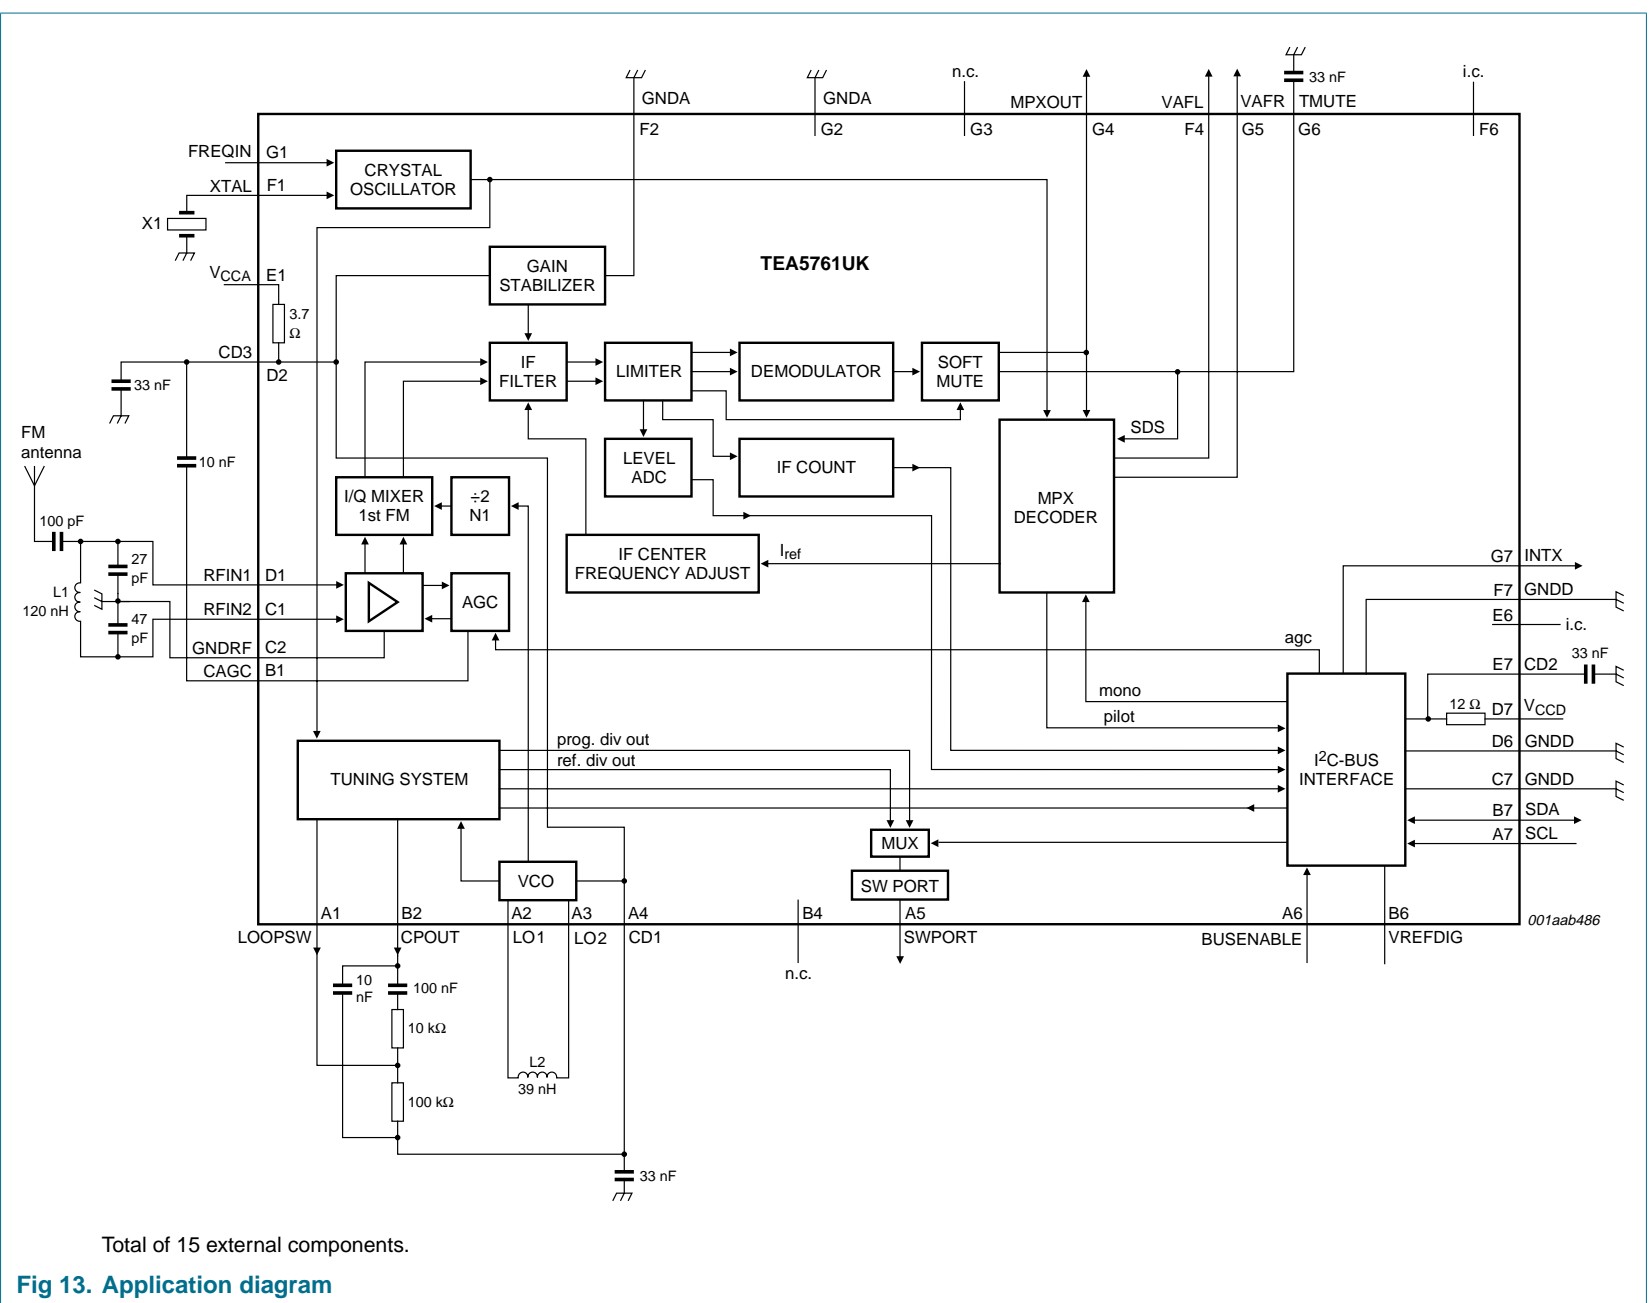

Fig 13. Application diagram
$V_{CCA} = V_{CCD} = 2.7$ V; $T_{amb} = 25$ °C; measured with test circuit in Figure 13; all AC values are given in RMS; minimum and maximum values include spread due to the applied voltage from 2.5 V to 3.6 V and process spread; unless otherwise specified; all RF input values are defined in potential difference (PD), except when EMF is explicitly stated.
$V_{CCA} = V_{CCD} = 2.7\text{ V}$; $T_{amb} = 25\text{ °C}$; measured with test circuit in Figure 13; all AC values are given in RMS; minimum and maximum values include spread due to the applied voltage from 2.5 V to 3.6 V and process spread; unless otherwise specified; all RF input values are defined in potential difference (PD), except when EMF is explicitly stated.